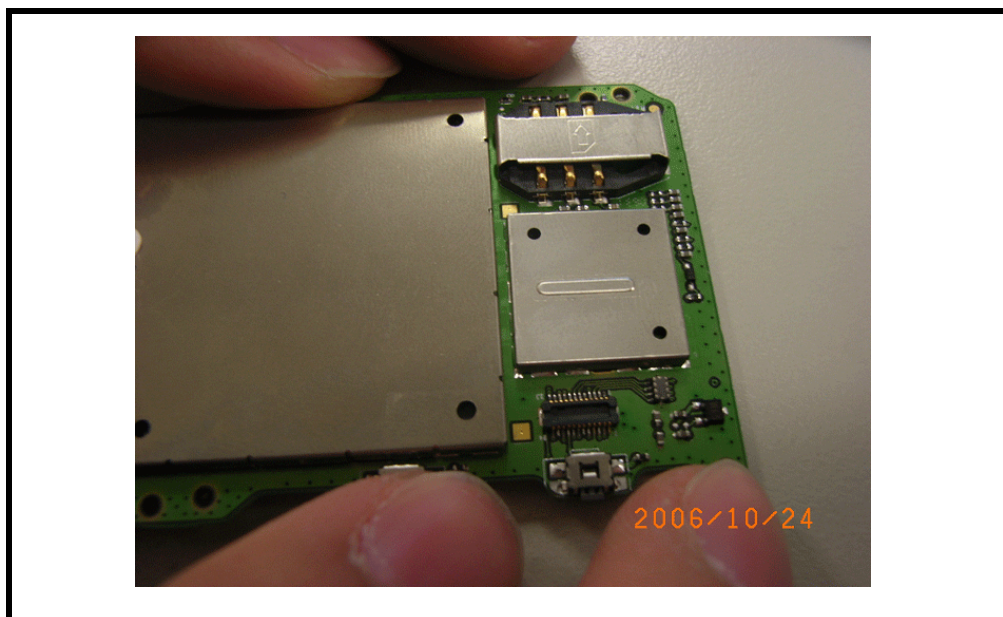

Figure 44.
3.1 Cover the shielding case(P/N:3052H80005W) as the figure 44.